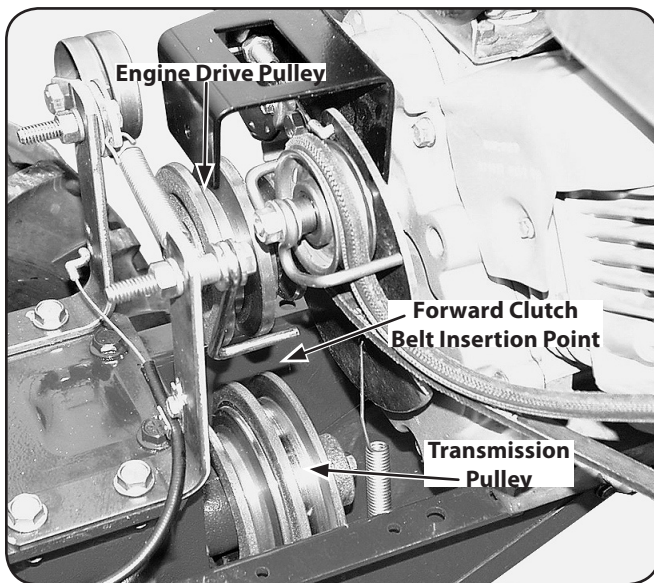

Figure 7-5
8. From the front of the tiller, insert the forward clutch belt in between the bottom of the engine drive pulley and the top of the transmission pulley. See Figure 7-5.
11. Reinstall the reverse clutch belt. Insert the bottom of the belt into the frame, then pull down on the belt and roll it onto the large, forward-most groove of the transmission pulley. See Figure 7-5.